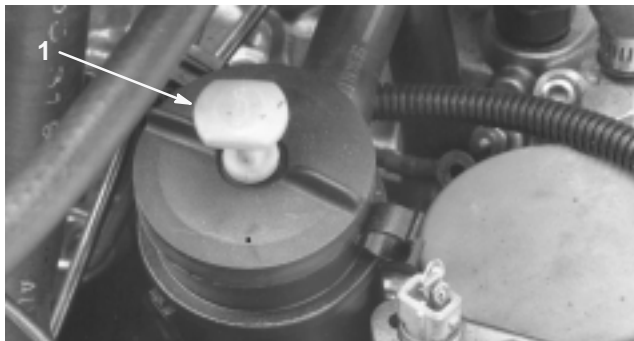

Figure 1
2. Remove dipstick from tube cap (Fig. 1), wipe clean and reinstall dipstick into tube cap. Pull it out again and check oil level on dipstick: Oil level must always be in notch area on dipstick.